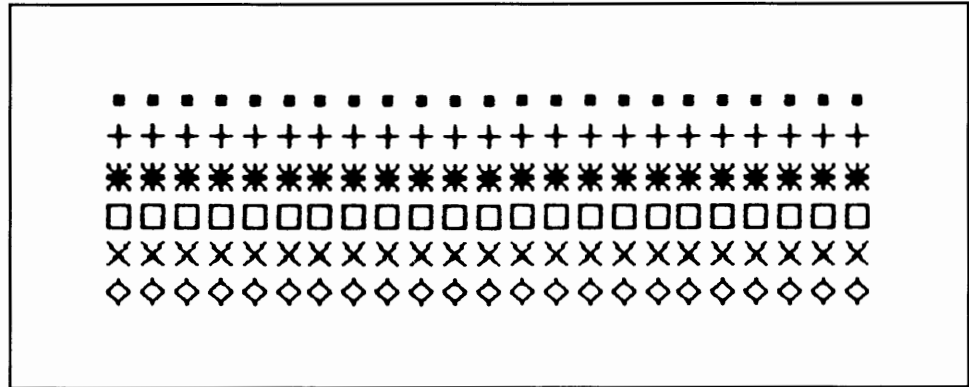

Figure 1-3. Polymarkers
- **Set Polymarker Type.** Selects a polymarker type from among those shown in Figure 1-3 or from a larger set, if additional types are supported by the selected device.